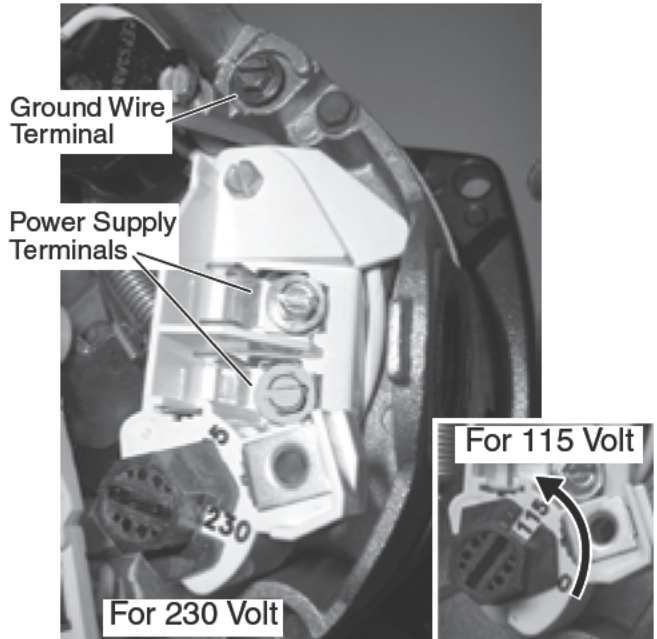

Figure 4 - Voltage set to 230 volts, Dial Type; turn dial to select 115 volts. Insert tool in slot to turn dial.
Your motor terminal board (located under the motor end cover) should look like Figure 4.
- Step 7. Connect current carrying conductors to terminals L1 and L2 under motor canopy. When replacing motor, check wiring diagram on motor nameplate against Figure 4. If the motor wiring diagram does not match Figure 4, follow the diagram on the motor.
NOTICE 115/230 Volt single phase models are shipped from factory with motor wired for 230 volts. If power supply is 115 volts, remove motor canopy and change switch dial on motor as shown in Figure 4. Do not try to run motor as received on 115 volt current.